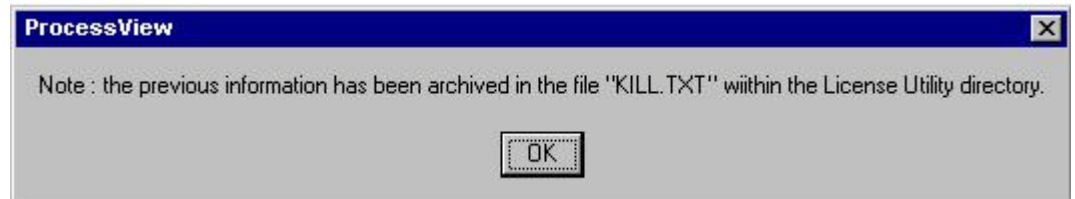

Figure 3.30. Message Confirming Creation of KILL.TXT File
28. Upon successful deletion, a file called "KILL.TXT" will be created in the "Softlic" directory, which has the name, date, and last authorized key and confirmation code. A message will appear informing you that the file has been created, as shown in **Figure 3.30**.